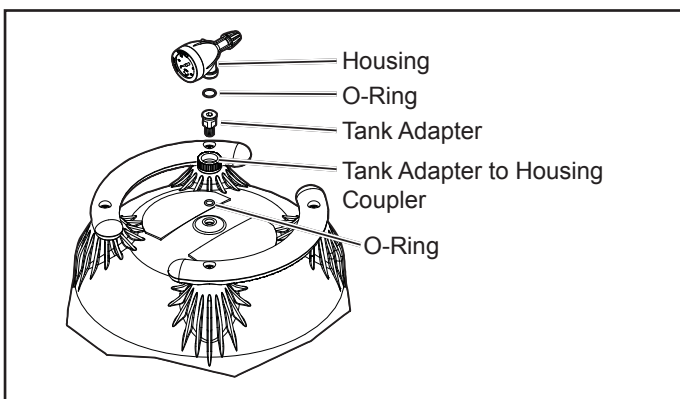

Figure 4. Pressure Gauge/Air Release Assembly
- a. Place the smaller, thicker o-ring onto the threads of the tank adapter, see Figure 4. Slide the tank adapter through the coupling nut and into the filter tank. Use the flats on the tank adapter to tighten. Do not overtighten.